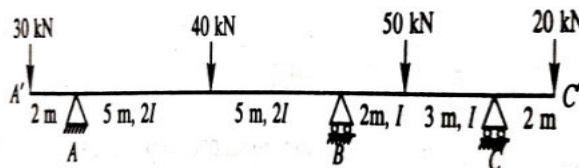

Figure 2.
3. Analyze the continuous beam shown in figure 2, by using Slope deflection method. [14M]